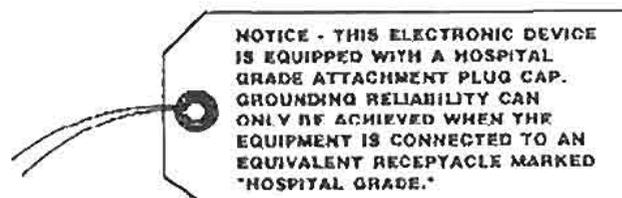

Figure 1-22. Electrical connector tag.
(8) A cardboard tag (tied to the electrical power cord) provides information about the hospital grade electrical connector (fig 1-22).